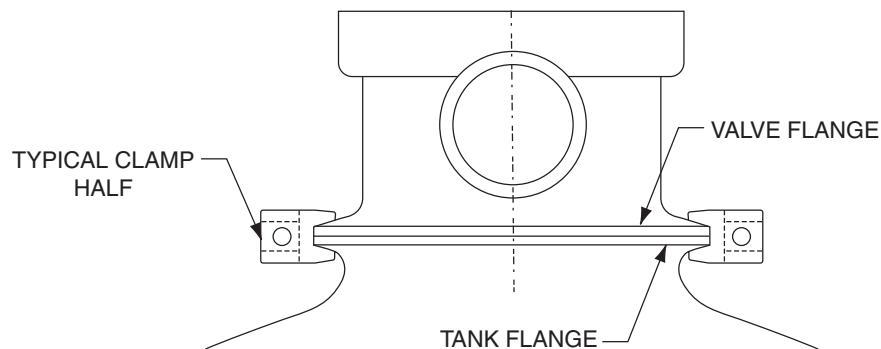
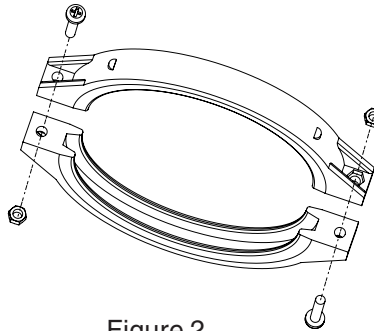

Figure 1.
Figure 2.
8. Insure that the valve is firmly pushed into the top of the tank and that the flange of the tank and the flange of the valve are contacting each other. See Figure 1.
9. The plastic clamp can now be installed. Place the clamp half over the valve flange and the tank flange as shown in Figure 1. Insert the clamp screws and nuts into the clamp making sure that the nuts are located in the special hexagonal retainer slots on the clamps. See Figure 2.